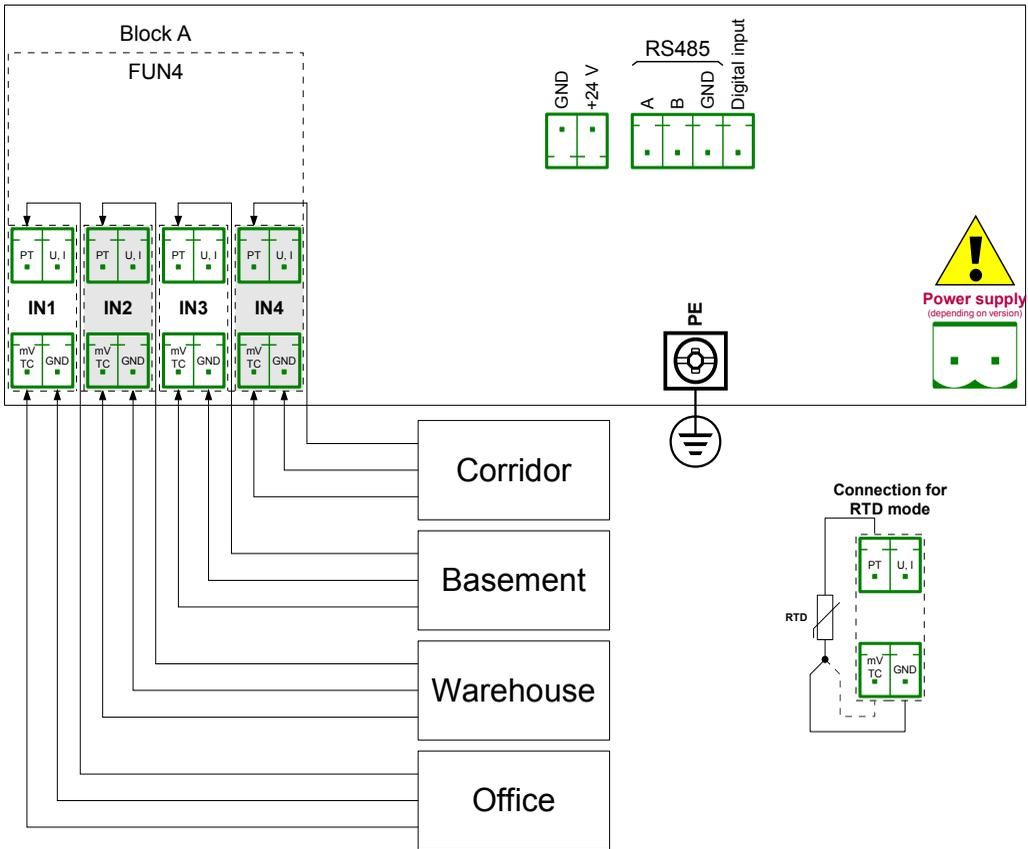

Fig. 7.66. Schematic diagram for the FUN4 hardware configuration
Before measuring the temperature the user should configure the device and then connect the sensors as shown in **Fig. 7.66**.
- **Source** parameter set as **Inp. B1: Universal** (see the connection in Fig. 7.66),